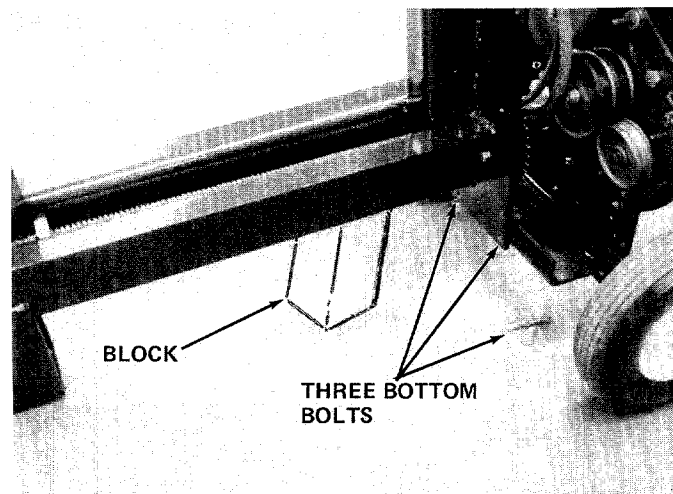

FIGURE 13
10. Block up the front of the frame as shown in figure 13. Remove the three bottom bolts, lock washers and nuts. See figure 13.